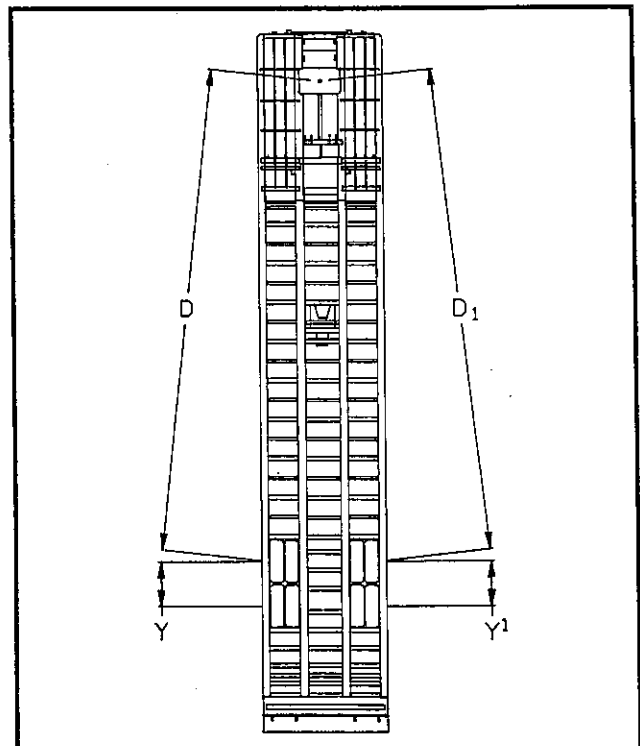

Figure 6-9 Checking Axle Alignment
d. Measure (D) from the plumb bob to the center point on one end of the axle. Record this measurement (See Figure 6-9).
e. Measure (D1) to the other end of the axle in the same manner as in Step d. Record this measurement (See Figure 6-9).
e. Now align the rear axle to the front axle in the same manner using the torque arm for adjusting. The rear axle should be exactly parallel to the front axle. In other words, dimensions Y and Y1 in **Figure 6-9** should be the same.